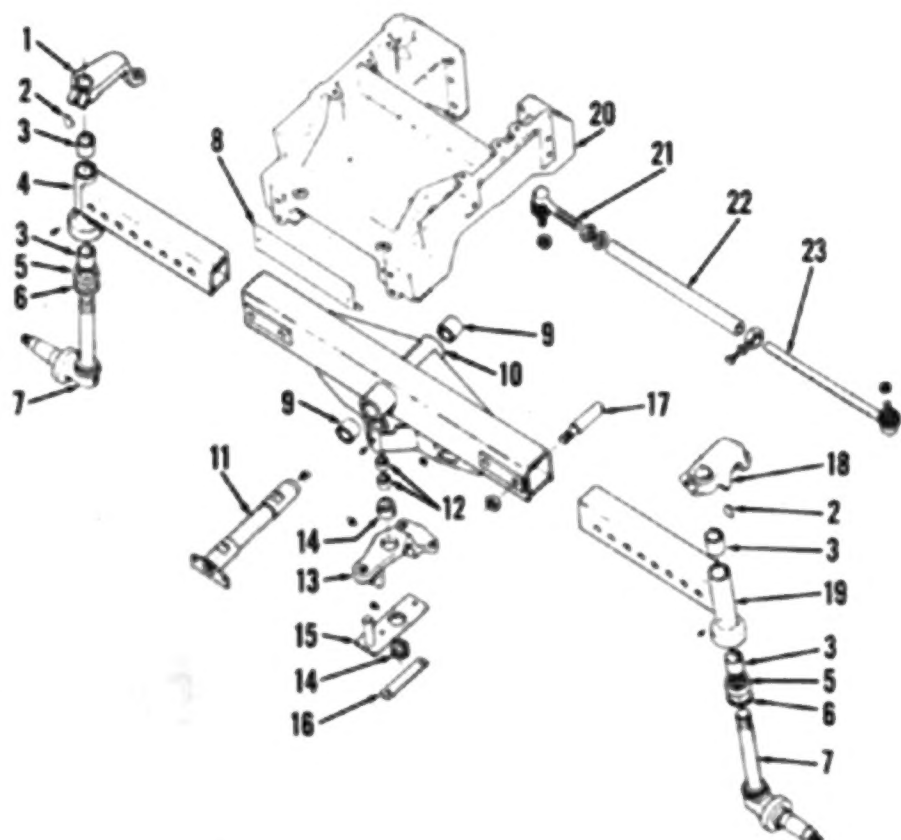

Fig. 1 - Exploded view of straight adjustable front axle assembly available on all models.
The front axle assemblies used on all models are the straight adjustable type shown in Fig. 1 and the heavy duty type shown in Fig. 2.
1. To remove the axle main member (10 - Fig. 1 or Fig. 2), raise front of tractor and place supports under engine and clutch. Remove front wheel and hub assemblies, then unbolt and remove axle extension assemblies. Identify and disconnect power steering cylinder hoses. Plug or cap openings to prevent entrance of dirt or other foreign material into system. Remove cylinder rod anchor pin, unbolt pivot bracket (15) and remove steering cylinder. Move steering arm (13) rearward and lower the steering arm and tie rods from axle main member. Support axle main member with a floor jack, remove pivot shaft (11), then lower axle main member from front support (20).
3. To remove either steering knuckle (7 - Fig. 1 or Fig. 2), support front of tractor and remove front wheel. Disconnect tie rod from steering arm, loosen clamp bolt and remove steering arm. Remove the Woodruff key and lower